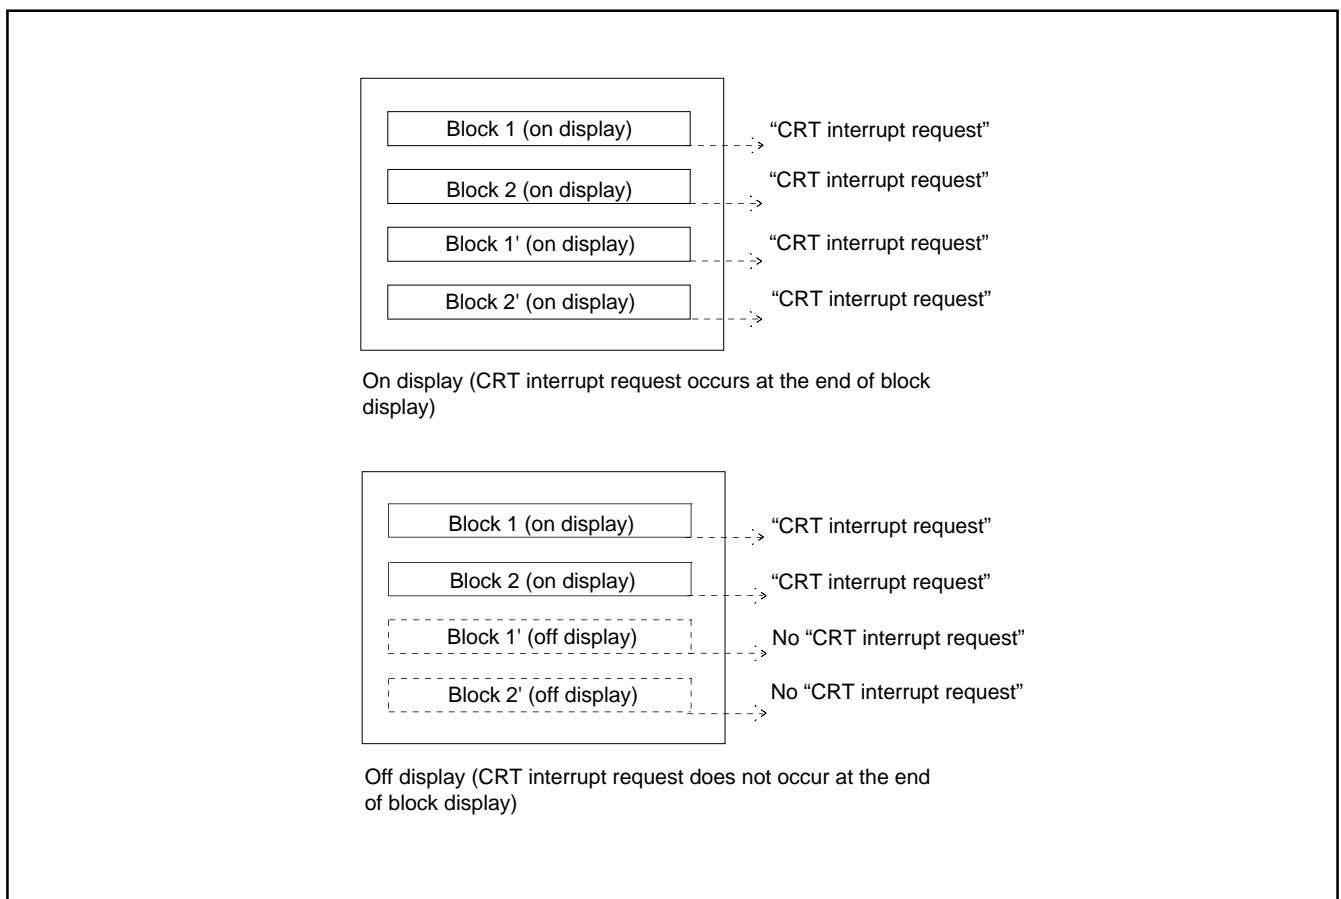

Fig. 59. Timing of CRT Interrupt Request
**Note:** A CRT interrupt does not occur at the end of display when the block is not displayed. In other words, if a block is set to off display with the display control bit of the CRT control register 1 (address 00EA16), a CRT interrupt request does not occur (refer to Figure 59).